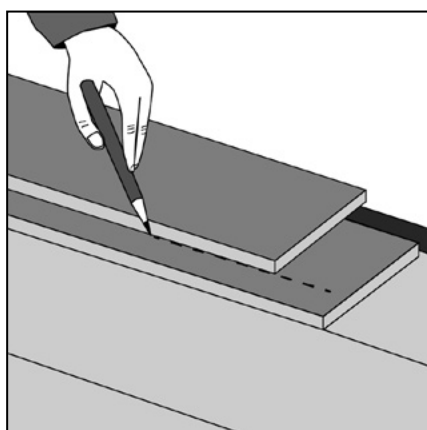

Figure 16 Last row, cutting the plank/tiles
- > To cut the planks/tiles to fit the last row, position them one at a time directly over the previous row in the direction you'll be laying them. Lay these planks/tiles on top of the installed row (fig 16).
- > Use the edge of this board to mark the cutting line with a pencil on the board beneath. Remember to allow for the expansion gap (fig. 16).